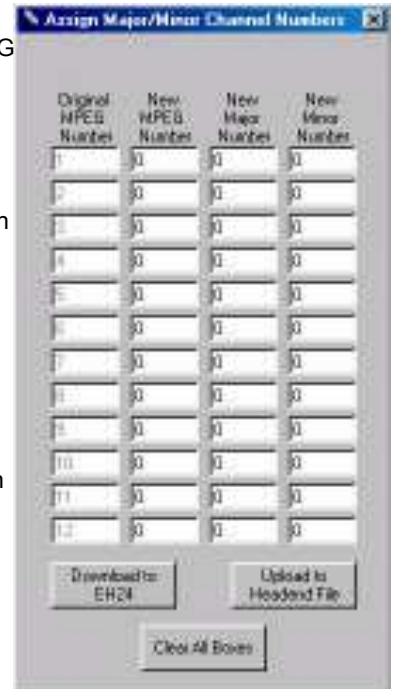

FIGURE 5
7) Click on the 'Set Major/Minor Channel Numbers' button. You will be presented with a screen shown in **FIGURE 5**.